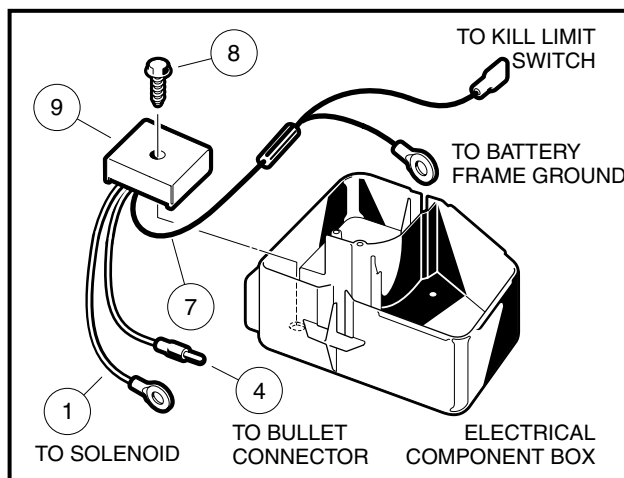

Figure 12-16 Voltage Regulator
5. Disconnect the voltage regulator red wire (1) at the large post on the solenoid, the yellow wire (4) at the bullet connector, and the black wire (7) from the wire harness and at the battery frame ground (**Figure 12-16, Page 12-11**).
6. Remove the voltage regulator mounting screw (8) and remove the voltage regulator (9).
1. Position the voltage regulator (9) in the electrical component box and install the mounting screw (8) and tighten screw to 23 in-lb (2.6 N·m) (**Figure 12-16, Page 12-11**).
2. Connect the voltage regulator red wire (1) at the large post on the solenoid with the other red wires, the yellow wire (4) at the bullet connector, and the black wire (7) to the wire harness and the battery frame ground (**Figure 12-16, Page 12-11**).